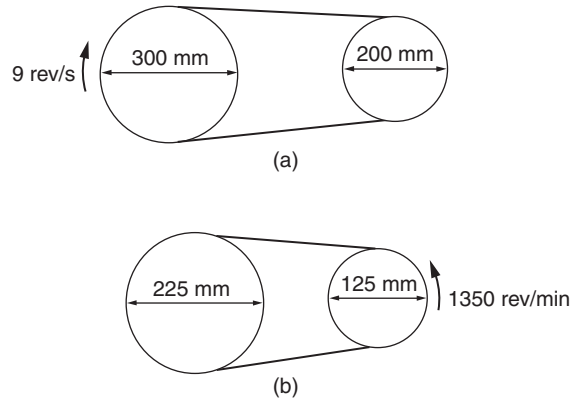

Fig. 90
14. (a) Calculate the speed of the smaller pulley in Figure 90(a).
(b) Determine the speed, in rev/min, of the larger pulley in Figure 90(b).